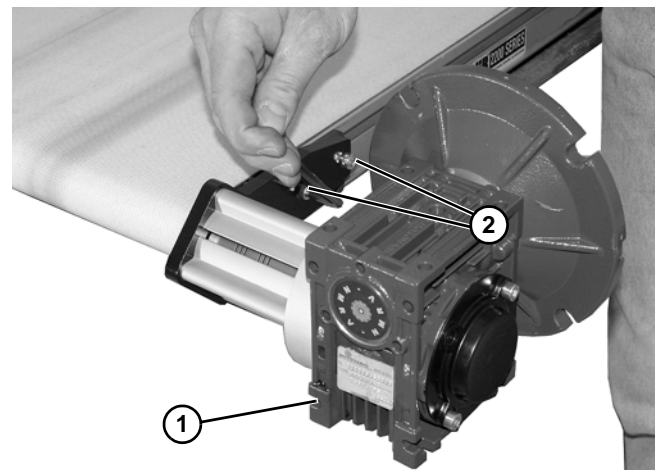

Figure 19
3. Slide coupling over drive output shaft and install gear reducer assembly (**Figure 19, item 1**) with screws (**Figure 19, item 2**). Tighten to 80 in-lb (9 N-m).
2. Remove two (2) screws (Figure 19, item 2). Remove drive assembly (Figure 19, item 1).